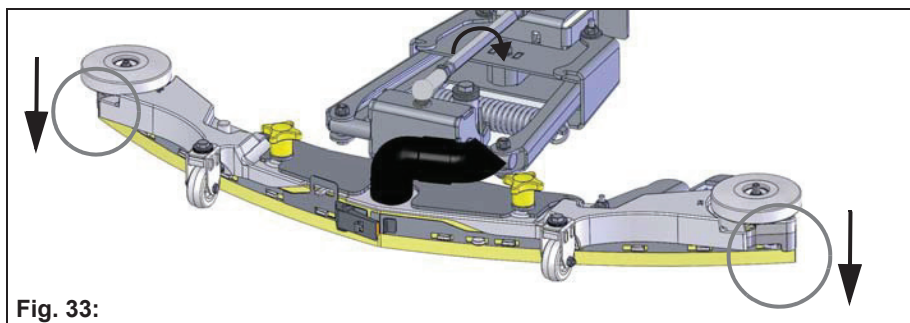

Fig. 33:
- Turn the threaded bar clockwise: The distance of the sealing strip to the ground decreases at the ends **Fig. 33**.